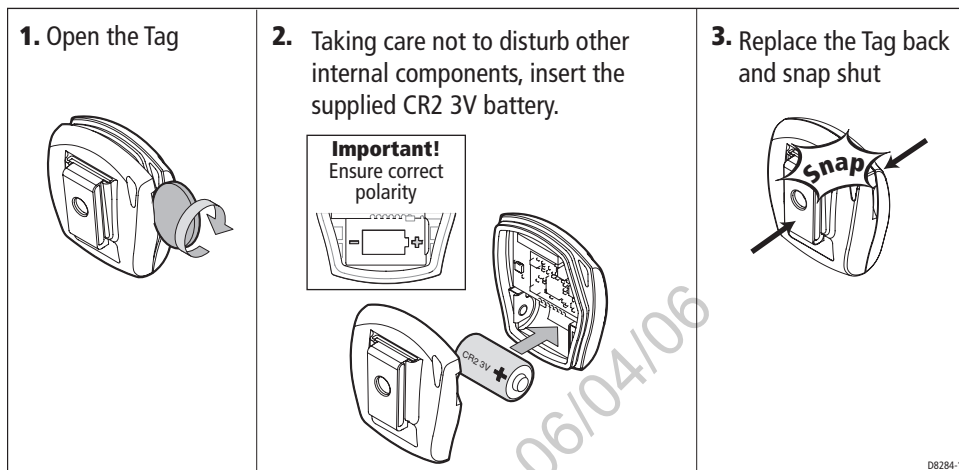

Figure 13 - Fitting Tag battery
- Fit one of the non-rechargeable, lithium CR2 3V batteries into each Tag as detailed in *Figure 13*.